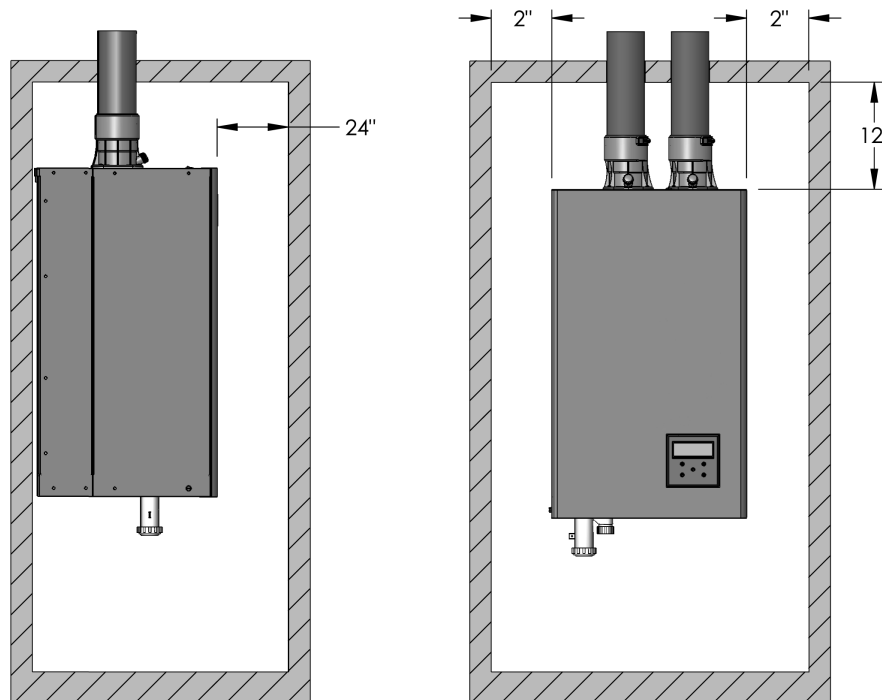

Figure 1.1: Minimum Accessibility Clearances – Peak-40
2. Figure 1.1 shows the minimum recommended clearances to allow reasonable access to the boiler for Model Peak-40. However, Local codes or special conditions may require greater clearances.